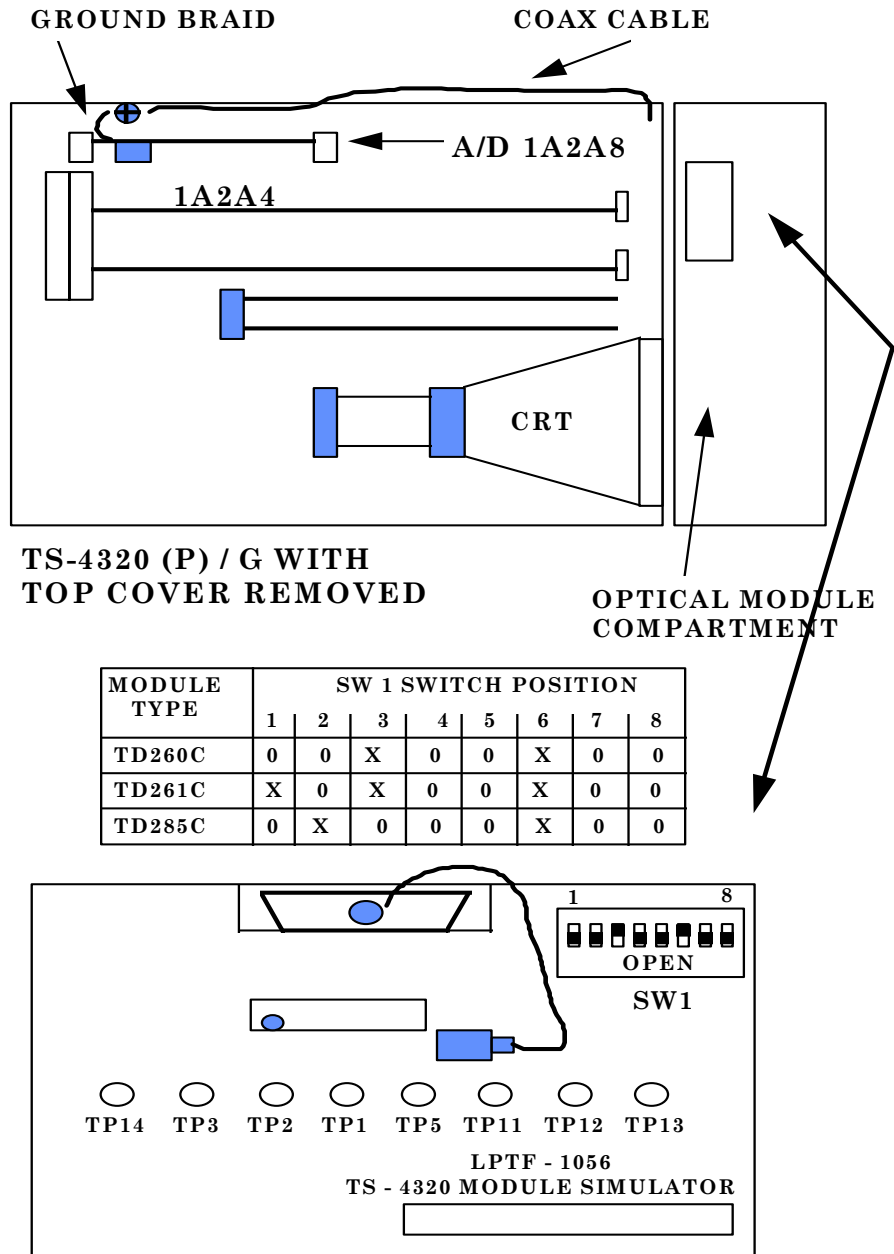
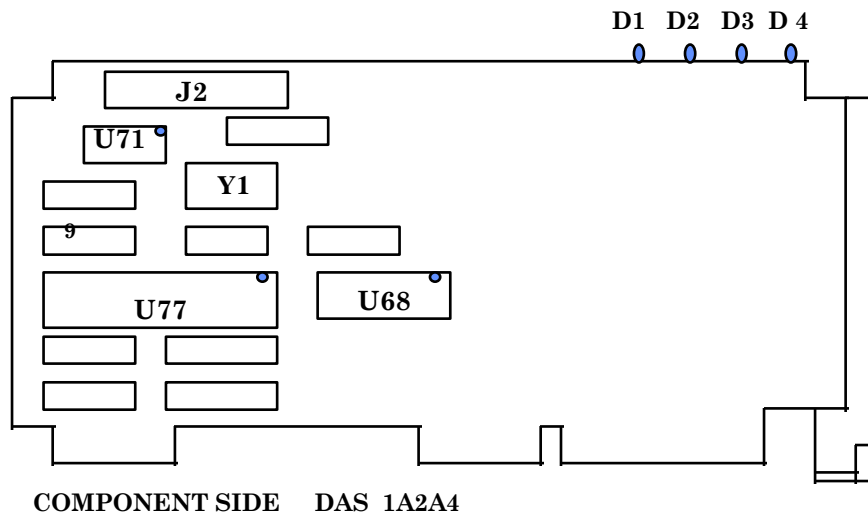
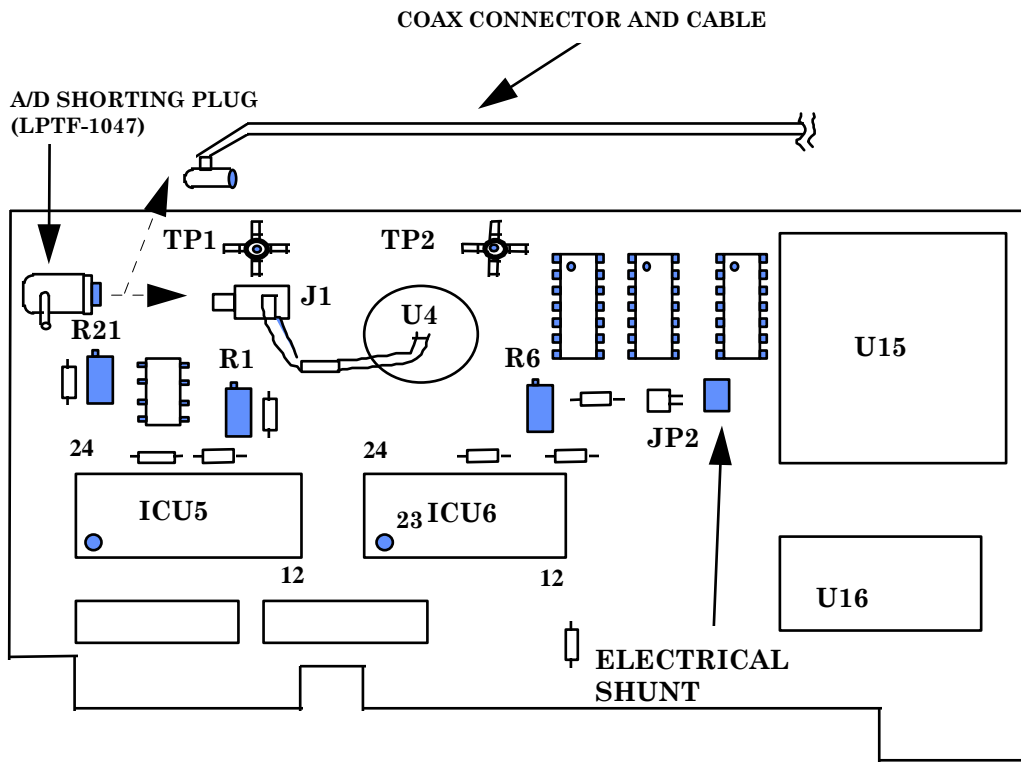

Figure 15. TS-4320(P)/G board locations and optical module simulator.
Figure 16. U71 location on DAS 1A2A4 circuit board.
Figure 17. A/D 1A2A8 - adjustment locations.
- (1) Set **ON-OFF** switch to **OFF**.
- (2) Remove TI top cover.
- (3) Connect frequency counter probe ground to **GROUND BRAID A/D 1A2A8** (fig. 15).
- (5) Place frequency counter probe tip on solder side of DAS 1A2A4 circuit board at IC U71, pin 9 (fig. 16). Frequency will be between 24.99925 to 25.00075 MHz; if not, repair is indicated.
- b.** Perform (1) through (9) below:
- (2) Remove chassis screw anchoring GROUND BRAID at A/D 1A2A8 circuit board (fig. 15).
- (3) Remove electrical tie down straps if present.
- (4) Remove coax connector from J1 (fig. 17).
- (5) Remove A/D 1A2A8 circuit board (fig. 15).
- (6) Install A/D SHORTING PLUG (LPTF-1047) on J1 (fig. 17).
- (7) Install A/D extender card (LPTF-1048) into TI A/D 1A2A8 mother board connector.
- (8) Install A/D 1A2A8 circuit board on extender card.
- (9) Connect GROUNDING BRAID (fig. 15) to TI chassis using jumper wire.
- d. Connect multimeter negative lead to ICU6, pin 12, and positive lead to ICU6, pin 23 (fig. 17).
Multimeter negative lead may be connected to shield of TP1 (fig. 17) on A/D 1A2A8.
- f. Move multimeter positive lead to ICU5, pin 24 (fig. 17).
- g. Multimeter will indicate positive within ± 0.05 V dc of recorded value in e above; if not, adjust R6 (fig. 17) R).
- i. Connect multimeter negative lead to ICU6, pin 12 and positive lead to ICU5, pin 23 (fig. 17). Multimeter will indicate between +9 and +11 mV dc; if not, adjust R1 (fig. 17) (R).
- j. Perform (1) through (7) below:
- (2) Disconnect multimeter leads.
- (3) Install electrical shunt across JP2 (fig. 17).
Electrical shunt is currently on one of two pins on JP2 (fig. 17).
- (4) Remove A/D SHORTING PLUG (LPTF-1047) from J1 (fig. 17).
- (5) Install coax connector on J1 (A/D 1A2A8) (fig. 17) circuit board (observe caution).
- (6) Remove existing optical module from TI.
- (7) Install LPTF-1056 (TS-4320) MODULE SIMULATOR in TI OPTICAL MODULE COMPARTMENT (fig. 15).
- l. Connect multimeter negative lead to ICU6, pin 12 and positive lead to TP2 center post on A/D 1A2A8 circuit board (suggest making connections on solder side of A/D 1A2A8 (fig. 17)).
- m. Multimeter will indicate between 1.700 and 1.650 V dc, if not adjust R21 (fig. 17) (R).
- n. Perform (1) through (11) below:
- (2) Remove multimeter connections.